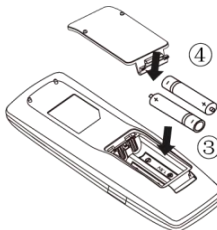

Fig.2
- (3) Place two 7# (AAA 1.5V) dry batteries, and make sure the position of “+” polar and “-” polar is correct (as shown in Fig 2③).
- (4) Reinstall the cover (as shown in Fig 2④).